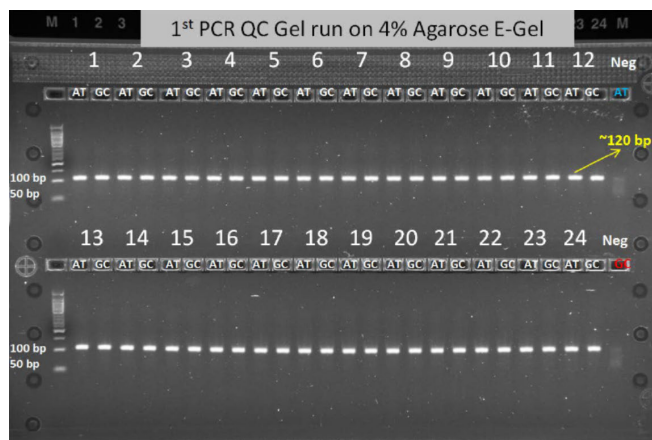

Figure 6 Example of a successful First QC Gel.
**Note:** After 15 minutes, return to the E-Base™ device to inspect and capture an image of the gel. The 1st PCR sample wells should have a single band of ~120 bp. The negative control should not have a band. The image should look like following example. (Figure 6.)